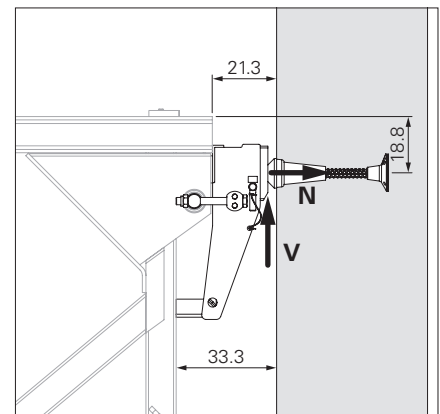

Fig. F2.05
5. Attach the work platform to the mounting rings using the suspension shoes and secure with bolts. (Fig. F2.05 + Fig. F2.06)